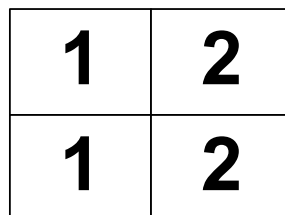

Figure 3-5. Vertical mirroring.
- Vertical mirroring maps L1 and L3 to the first physical name table and L2 and L4 to the second as shown in figure 3-5.